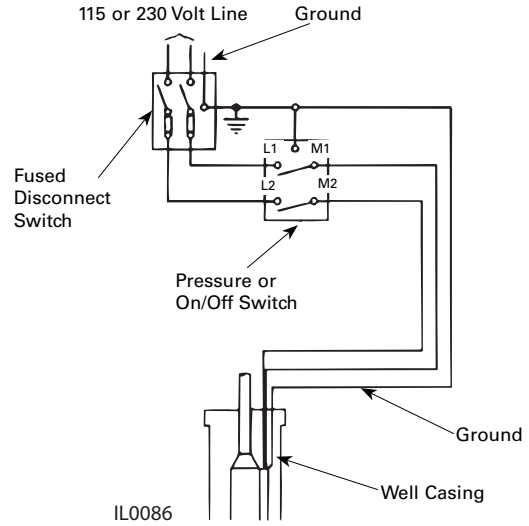

Figure 16 – 2-Wire Hook-Up
1. Simply run regular power line from electrical disconnect box to pressure switch and submersible electrical cable from pressure switch to the motor (See Figure 16).